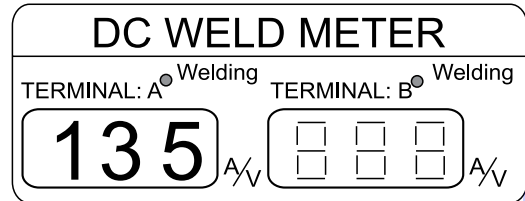

Figure 38. DC Weld Meter (135 Amps)
- The selected current (amps) will be displayed on the DC weld meter. The example shown in Figure 38 is for a constant current value of 135 amps.